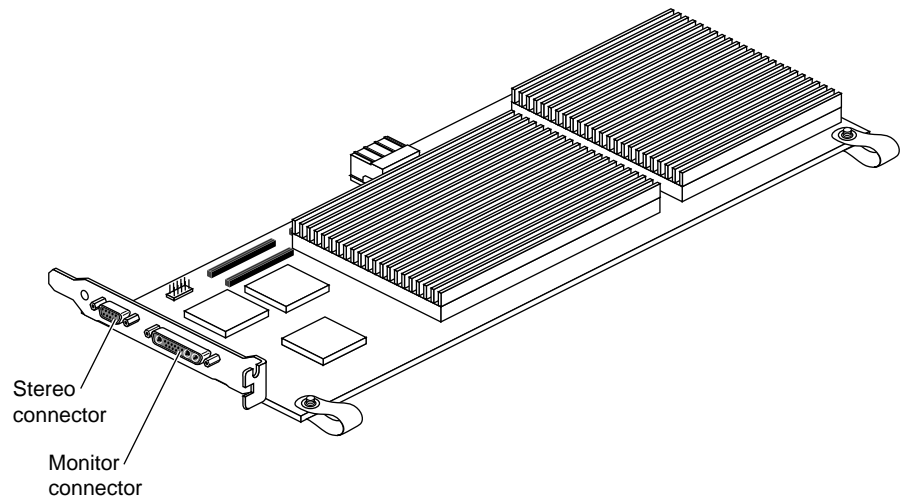

Figure 2-14 Removing the Nuts From the Solid IMPACT Graphics Board
- Remove the two screws that pass through the pull straps. You can turn the board over. See Figure 2-14.